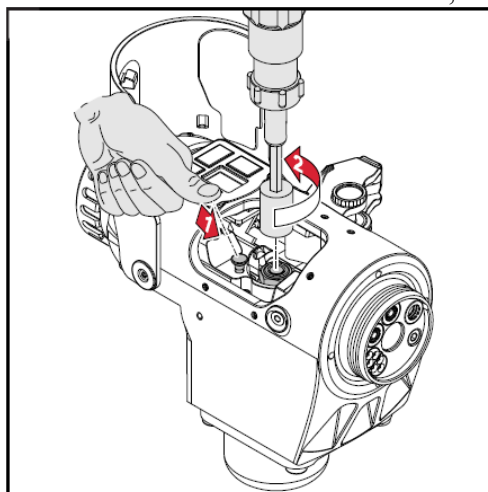

Fig. 5.2.6 (a) Desorption of drive roller
- 1 According to Fig. 5.2.6 (a), install the attached torque drive to the drive roller. Then remove the roller. In this time, push the button on the side of the drive roller, fix the roller rotation.